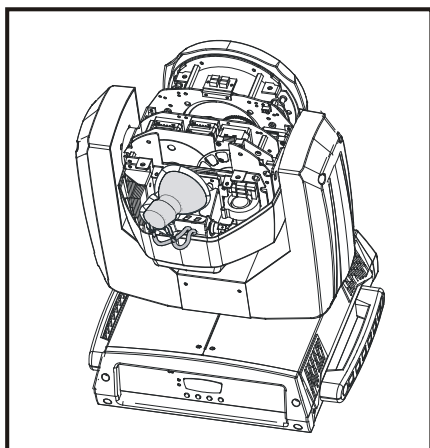
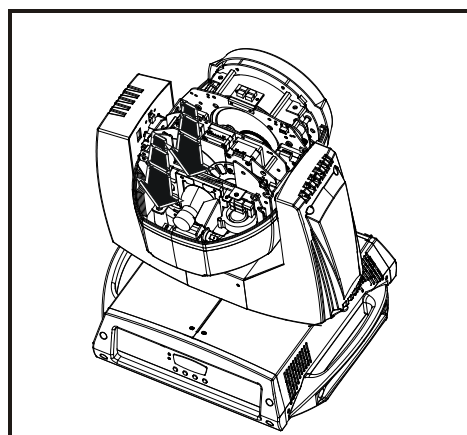

Figure 4
Figure 5
4. Disconnect the lamp and connect the replacement lamp (Figure 4). Place the new lamp into the lamp recess.(Figure 5)